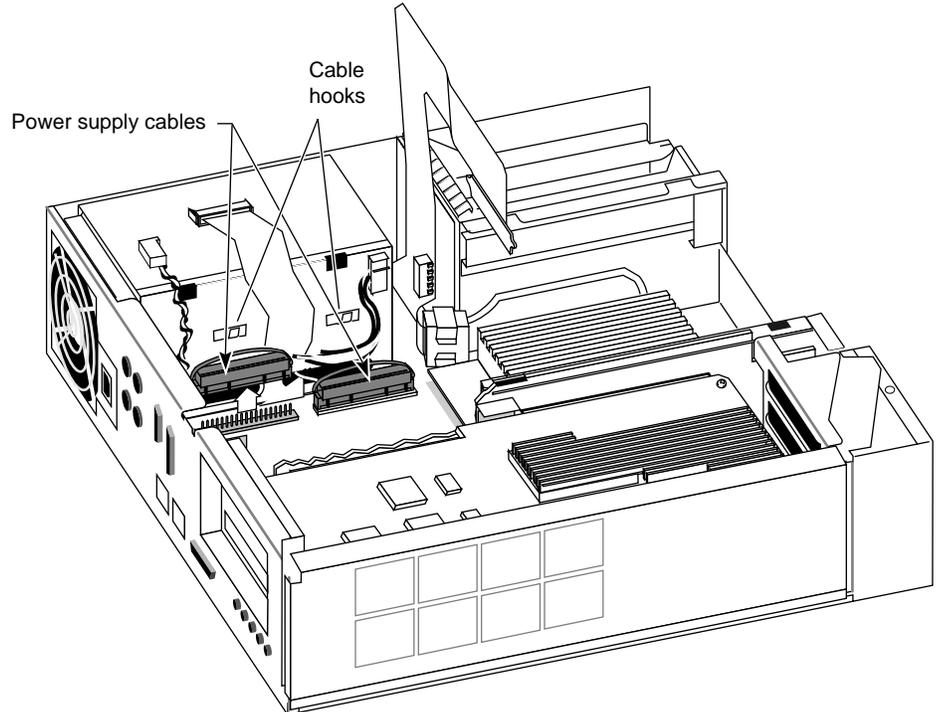

Figure 2-12 Removing the Baseboard Power Cables
- Hang each connector by its strap on the two wide hooks that are above the connectors and attached to the side of the power supply. See Figure 2-12.